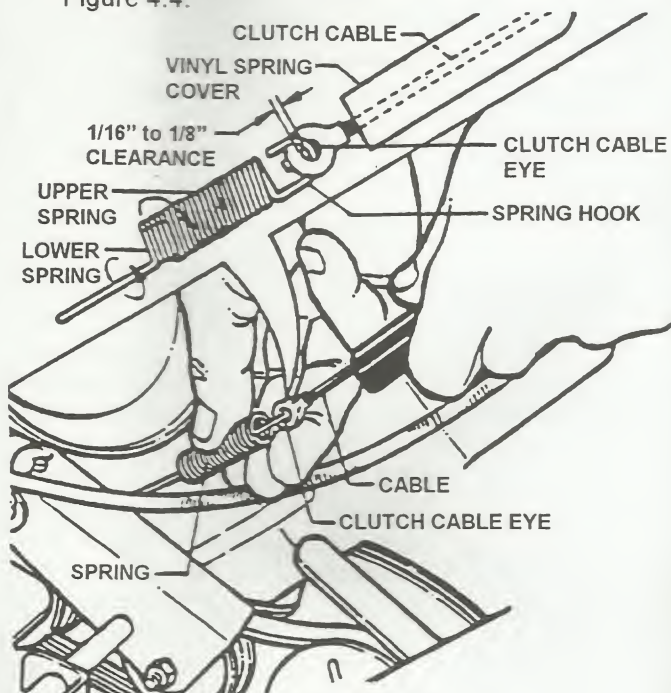

FIGURE 4.4
1. The wheel drive control is properly adjusted when there is 1/16" to 1/8" clearance between the inside of the spring hook and the inside of the clutch cable eye with the wheel drive control released. See Figure 4.4.